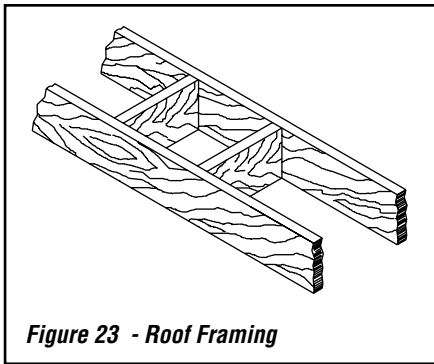

Figure 23 - Roof Framing
1. Cut and frame the holes in the ceiling, floor and roof where the chimney will pass (see **Figure 23**). Use a plumb-bob to line up the center of the holes. The sizes are indicated in **Table 2** for the floor and ceiling holes and **Table 3 (Page 16)** for the roof holes.